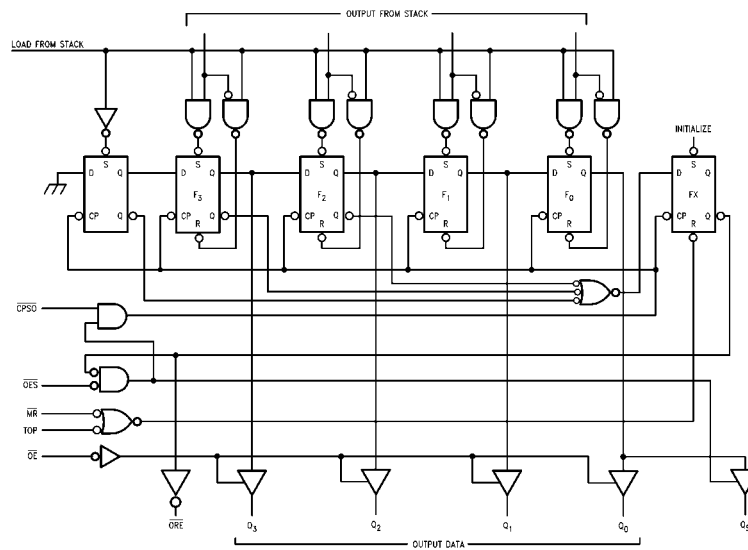

FIGURE 3. Conceptual Output Section
The Output Register receives 4-bit data words from the bottom stack location, stores it and outputs data on a 3-STATE 4-bit parallel data bus or on a 3-STATE serial data bus. The output section generates and receives the necessary status and control signals. Figure 3 is a conceptual logic diagram of the output section.
**Serial Data Extraction**—When the FIFO is empty after a LOW pulse is applied to  $\overline{MR}$ , the Output Register Empty ( $\overline{ORE}$ ) output is LOW. After data has been entered into the FIFO and has fallen through to the bottom stack location, it is transferred into the Output Register provided  $\overline{TOS}$  is LOW and  $\overline{TOP}$  is HIGH. As a result of the data transfer  $\overline{ORE}$  goes HIGH indicating valid data in the register. The 3-STATE Serial Data Output,  $Q_S$ , is automatically enabled and puts the first data bit on the output bus. Data is serially shifted out on the HIGH-to-LOW transition of  $\overline{CPSO}$ . To prevent false shifting,  $\overline{CPSO}$  should be LOW when the new word is being loaded into the Output Register. The fourth transition empties the shift register, forces  $\overline{ORE}$  output LOW and disables the serial output,  $Q_S$  (refer to Figure 3). For serial operation the  $\overline{ORE}$  output may be tied to the  $\overline{TOS}$  input, requesting a new word from the stack as soon as the previous one has been shifted out.